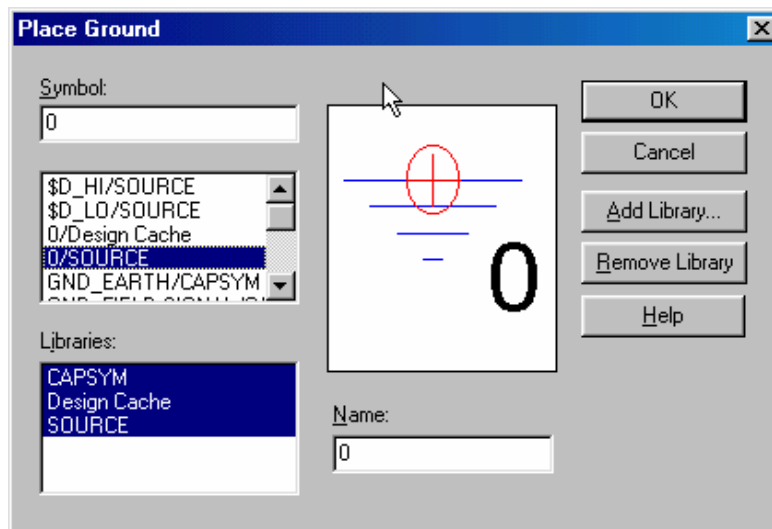

Figure C-6
- Finally, all circuits need a ground reference so we know where the voltage is equal to zero. Click on the *Place Ground* button, that is about half way down on the right . You want to choose the *0/SOURCE* ground from the *Place Ground* window shown in figure C-6, since it is the only one that works with *PSpice*. If the 0 ground is not listed, you should use Add Library to load the *PSpice/SOURCE* library.